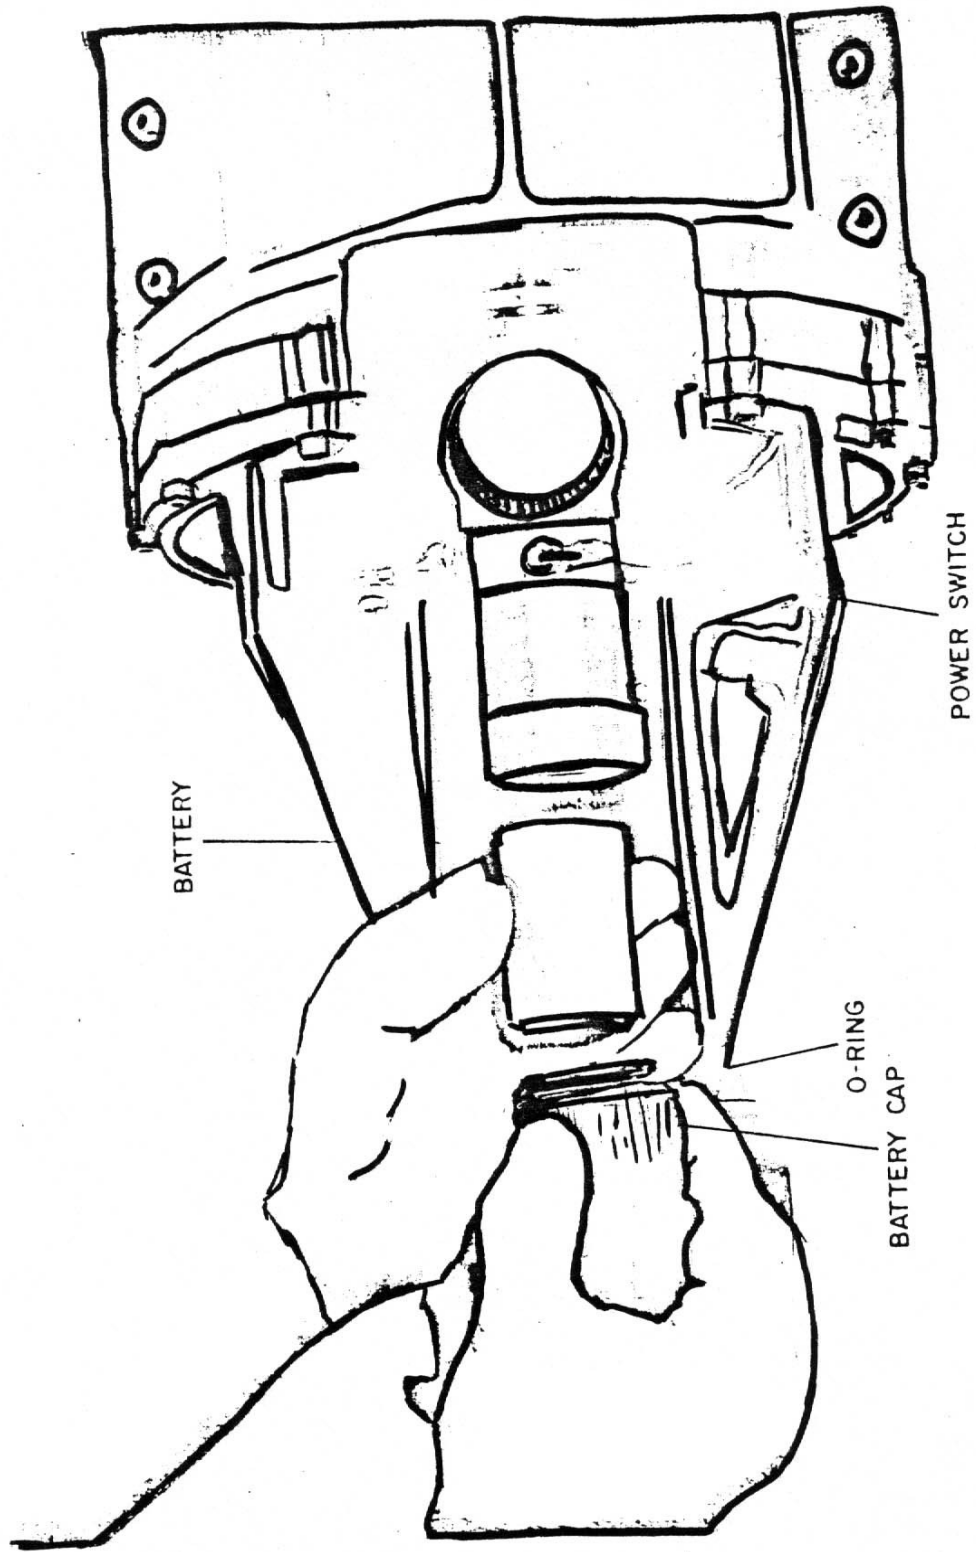

Figure 2-2. Installation of battery
2-5. INSTALLATION OF BATTERY (See figure 2-2)
1. Verify that viewing device power switch (see figure 2-2) is down (off position).